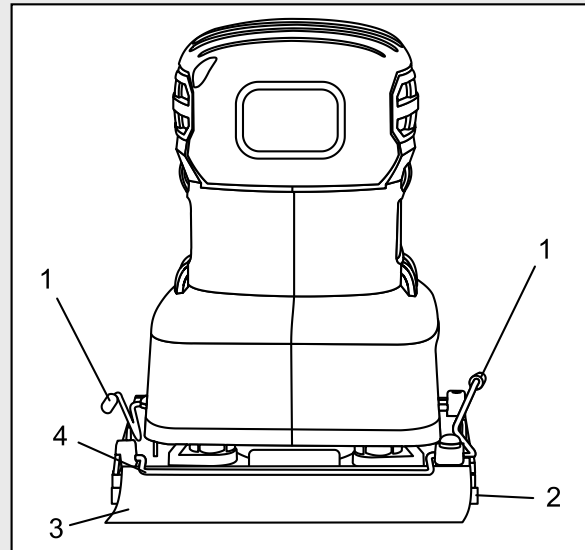
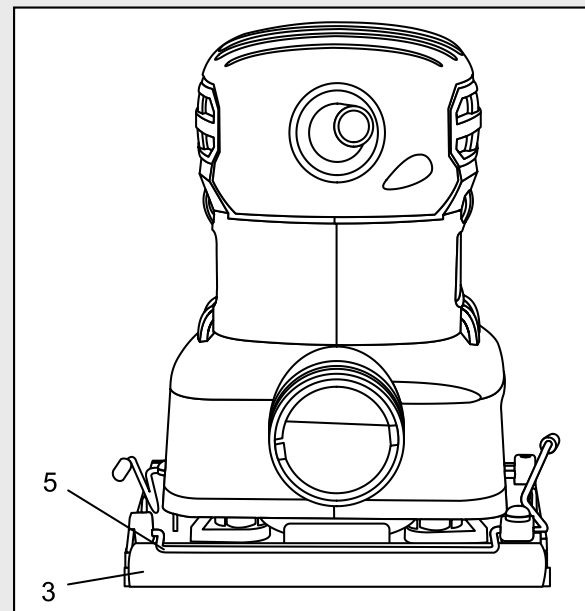

Fig. 3
Fig. 4
1. Lift up and outward on the front and rear sandpaper clamp levers (1) at the front and rear of the backing pad (2) (Fig. 3).
2. Insert one end of the 1/4 sheet sandpaper (3) with grit side up into the open front sandpaper clamp (4), making sure it is aligned with the backing pad. Lift the sandpaper clamp lever up and inward to lock the sandpaper into the clamp.
3. Wrap the sandpaper sheet (3) over backing pad and insert it into the open rear sandpaper clamp (5) (Fig. 4).
1. Install the sandpaper as shown in Fig. 3 & 4.